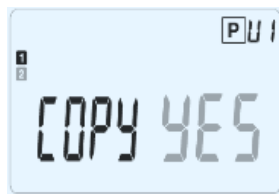

Fig. 19
- a. choose the "going to bed"  symbol, corresponding to the end of the day, to close; the thermostat will ask you to copy the program of the day, which you just have set and decided to close, onto the following days, as shown in Fig. 19: